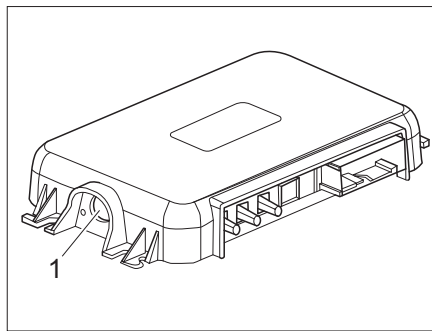

Fig. 288 Coupling button on the SCU
- Press on the SCU coupling button (Fig. 288,1). Your vehicle and mobile device are now paired.